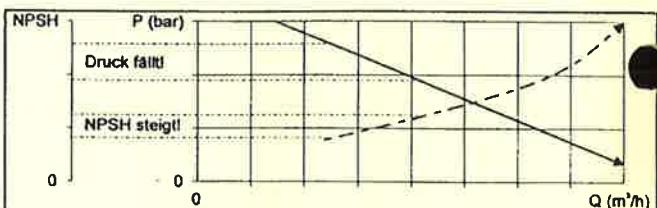

Fig. 5.4
- If the pressure differential is smaller than that intended, the NPSH range for the feed pump will not be so good. In order to prevent damage, the pump should be restricted accordingly (see fig. 5.4).